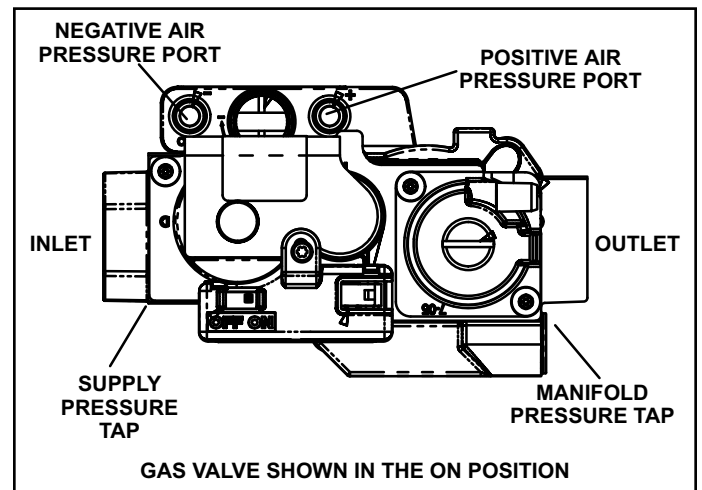

Figure 62. Gas Valve
See Figure 62
6. Move gas valve switch to OFF. See Figure 62.
8. Move gas valve switch to ON. See Figure 62.